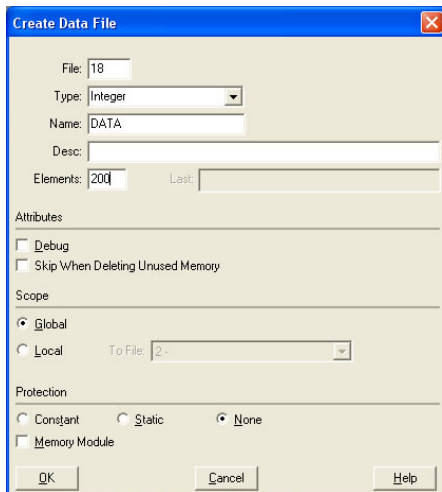

Figure 117: Creating a Data File
c) Follow the same procedure to create a data file. This file will be used to store the incoming data read from the interface card. Enter a file number (e.g. 18), set the type to "Integer", enter a descriptive name (e.g. "DATA"), and enter a number of elements (e.g. 200). Refer to Figure 117. Click OK to create the file.